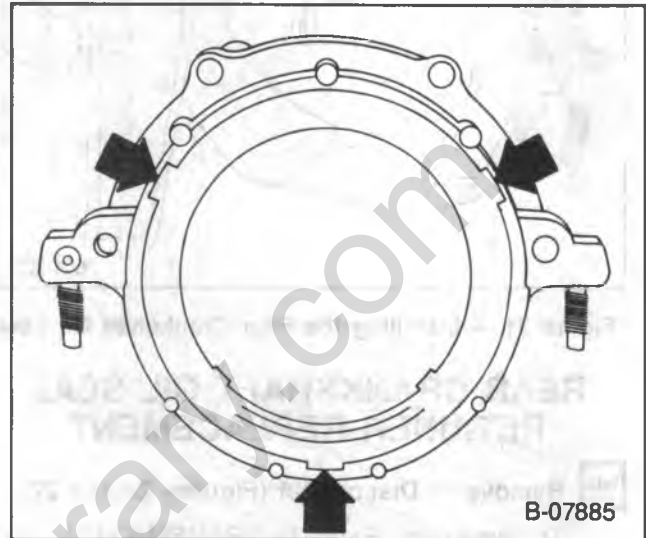

Figure 20 — Seal Removal Notches
Remove or Disconnect (Figure 20)
3. Rear crankshaft oil seal. Insert a screwdriver into the notches provided in the seal retainer and pry the seal out (figure 20). Take care not to damage the crankshaft seal surface.
↔ Remove or Disconnect (Figures 20 and 22)
4. Screws (80) and nuts (81).
5. Seal retainer (82).
6. Gasket (84).
7. Rear crankshaft oil seal. Insert a screwdriver into the notches provided in the seal retainer and pry the seal out (figure 20).